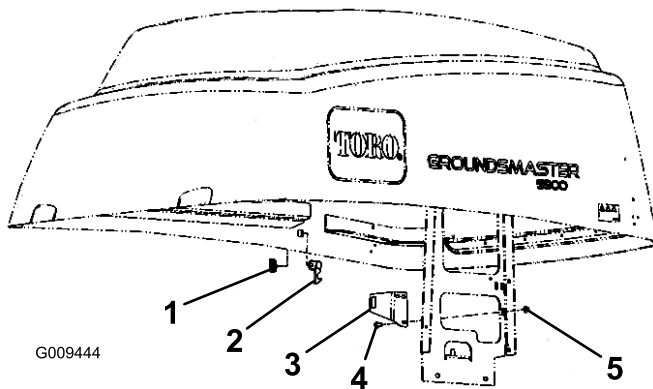

Figure 1
4. Remove the locking nut from the latch assembly (Figure 1).
5. Install the locking latch through the square hole in the right side of the hood (Figure 1). The catch must be positioned inside the hood and pointing downward.
7. Locate the (3) holes in the right side of the radiator support (Figure 1). Mount the latch bracket to the radiator support with (3) carriage screws and flange nuts. Position the latch bracket as shown in Figure 1.